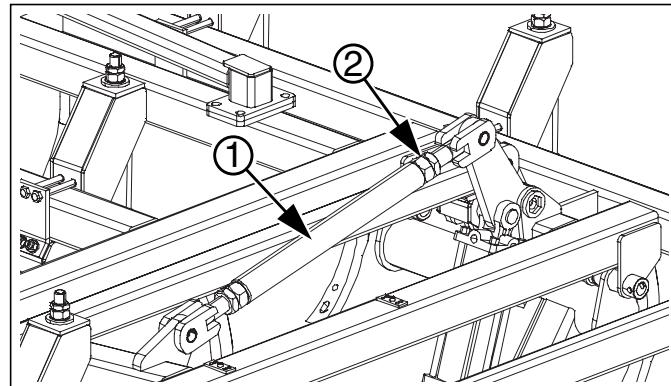

Figure 7
*Refer to Figure 7*
8. Set the 3-section and the 5-section inner and outer wings to match the depth of the center. This is done by adjusting the rear wing turnbuckle ① on each wing. Start by loosening the jam nut ②, then adjust the turnbuckle ①. Lengthen the turnbuckle tube to run deeper and shorten the turnbuckle to run shallower.
9. Tighten the jam nut ②, back against the turnbuckle tube to hold the adjustments in place.